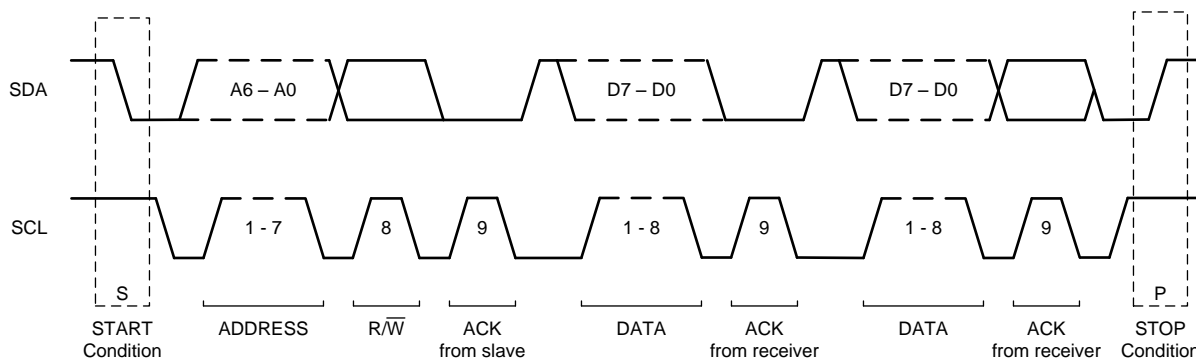

Figure 11. I²C Data Transfer Format
Figure 11 shows the format of the data transfer. The master initiates all transactions with the TLA202x by generating a START (S) condition. A high-to-low transition on the SDA line while SCL is high defines a START condition. The bus is considered to be busy after the START condition.